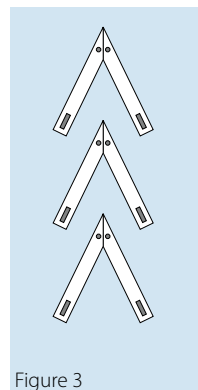

Figure 3
- The belt is supported over the entire width by a V-shaped arrangement of the wearstrips (figs. 3 + 4). This spreads the wear and tear evenly and means heavy loads can be applied.